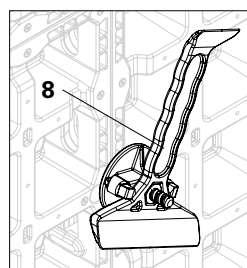

Fig. B9.01f
7. Tighten with the wingnut counterplate (54) from the rear side of the multi panel by hand or with the DUO cleaning device (8). (Fig. B9.01f)